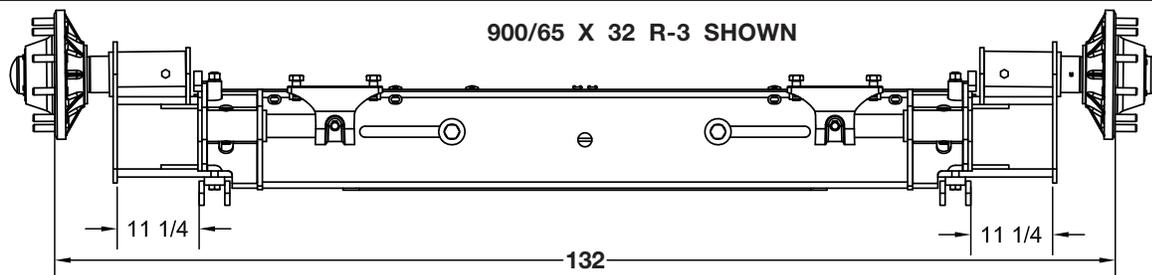

FIG. 2-15
- Slide extensions to desired tire gauge spacing. Axle extensions should be extended equally. Refer to chart below and FIG. 2-15.